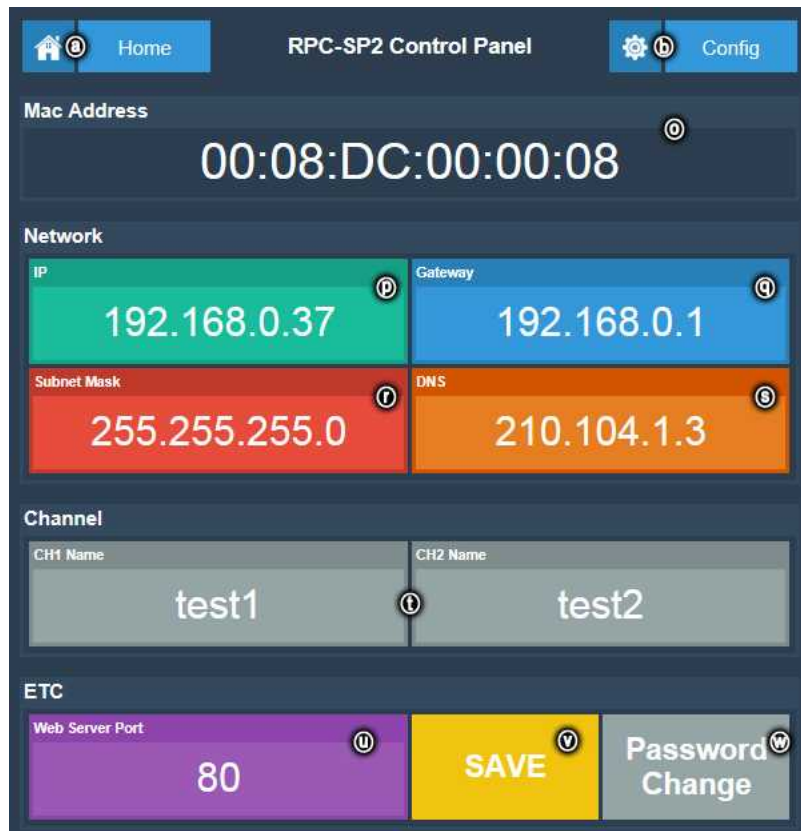

Figure 3-8. Example (The Main Window of embedded web UI for network setting of RPC-SP2)
The user can change the default access password to their own password in the main window(Figure 3-8).
The new window will be displayed for changing password as the following figure 3-8.
① As shown in figure 3-8, each channel name can be defined at "Config" menu in web UI. Type the name of each outlets at the "Channel"(㉠).